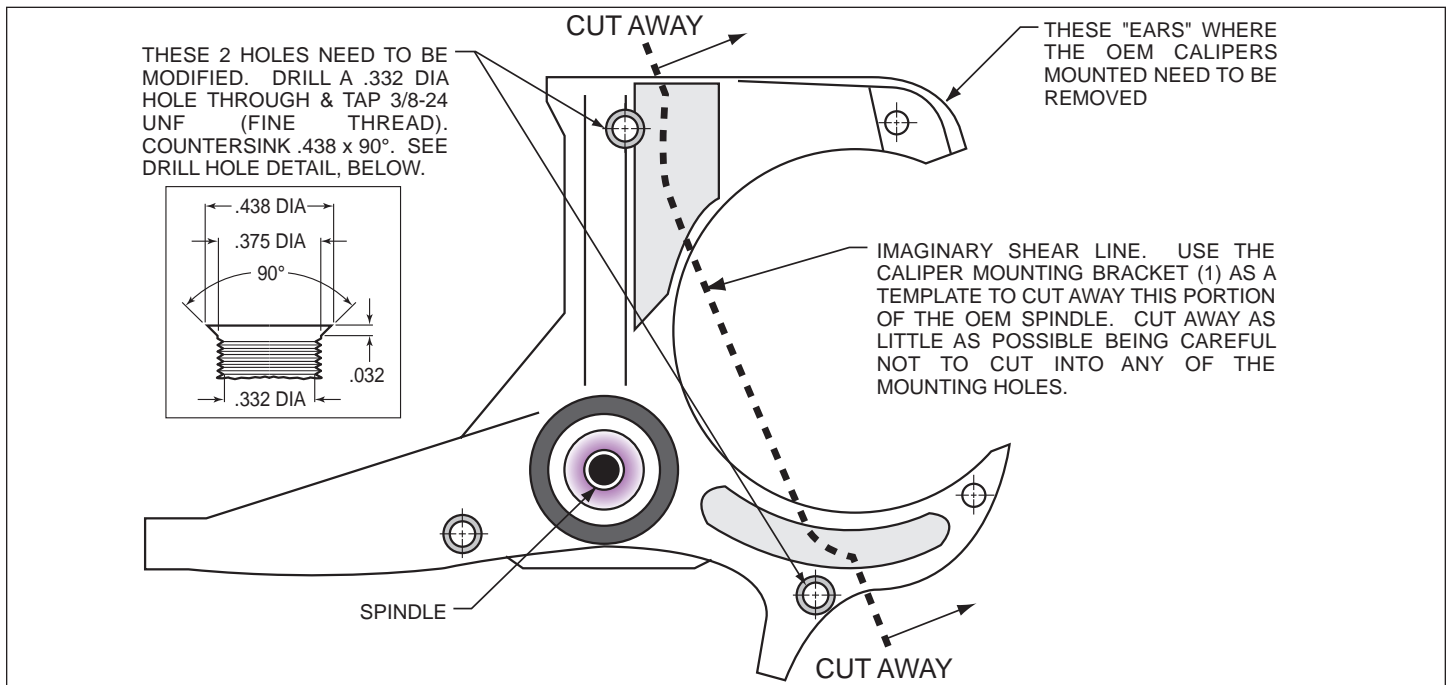

Figure 1. Steering Arm / Spindle Modifications
These modifications should be performed by a qualified machinist. Refer to Figure 1 on the following page as necessary (numbers in parenthesis refer to the parts list on page three). Only one view of the steering arm/spindle is shown, but the modifications need to be performed on both steering arm/spindles.
The two stock holes that will be used to mount the caliper mounting bracket (1) need to be modified (figure 1). Drill a .332 diameter hole through both holes, then tap 3/8-24 UNF (fine thread). Countersink the holes to .438 x 90°. The "ears" that protrude to form a "C" shape need to be removed to facilitate the installation of the Wilwood caliper (22). Using the caliper mounting bracket (16) as a template, mark two cut marks on the steering arm. Remove as little as necessary from the "C" shape, being careful not to cut away any of the mounting holes required to bolt on the caliper mounting bracket (1).
- Slide the rotor/hat assembly over the studs (3) in the hub (4) taking care to align the small countersunk holes in the hat (8) with the small threaded holes in the hub (4). Install three flat head socket head screws (11) through the small holes in the hat (8) and torque to 85 **in-lb**. Check to be sure the hat seats squarely against the hub face.
- NOTE:** Please reference the caution statement at the beginning of the assembly instructions. The caliper mount brackets (16) should be installed first with clean, dry threads on the mounting bolts (17). Place sleeve (19) into the holes on the radial mount caliper bracket (16). Install the radial mount caliper bracket (16) on the backside on the flat caliper bracket (1) by sliding bolt (17) through washer (18) and through the bracket holes. Place spacer (20) and shim washer (21) between the two brackets and screw bolt (17) into insert nut on the flat caliper bracket (1). Finger tighten bolt (17). Use one thin shim (21) between the two brackets (1 and 16) during initial trial fitting.
- NOTE:** This kit contains distinct right and left hand calipers that must be mounted in a specific direction, as described below. Lubricate the caliper mounting studs (23) with lightweight oil. Initially place two .030" thick shims (24) on each stud as shown in Figure 1. Mount the caliper (22) onto the bracket (16) using lock nuts (26) and washers (25), Figure 1. Ensure that the caliper is mounted so that the largest pistons are at the rotor exit end of the caliper, in relation to the direction of rotor rotation. Temporarily tighten the lock nuts.
- View the rotor (7) through the top opening of the caliper (22). The rotor (7) should be aligned in the center of the caliper (22). If not, adjust the radial mount caliper bracket (16) by using shims (21 and/or 28)) placed between the two brackets (1 and 16). Add as many shim washers (21 and/or 28) as necessary to achieve the correct alignment. Always use the same amount of shims on both the top and bottom radial mount caliper mounting bolts (17). Finger tighten and recheck alignment, adjust as necessary. Apply red *Loctite*® 271 to bolt threads (17) and torque to 47 ft-lb.